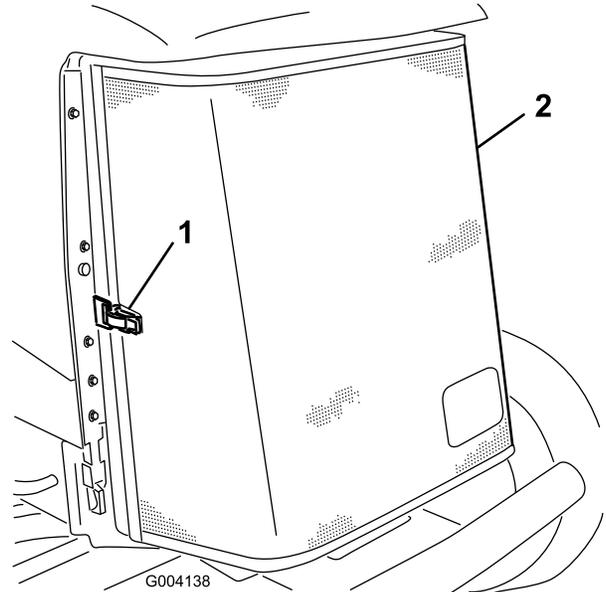

Figure 60
3. Unlatch the clamp and pivot open the rear screen (Figure 60).